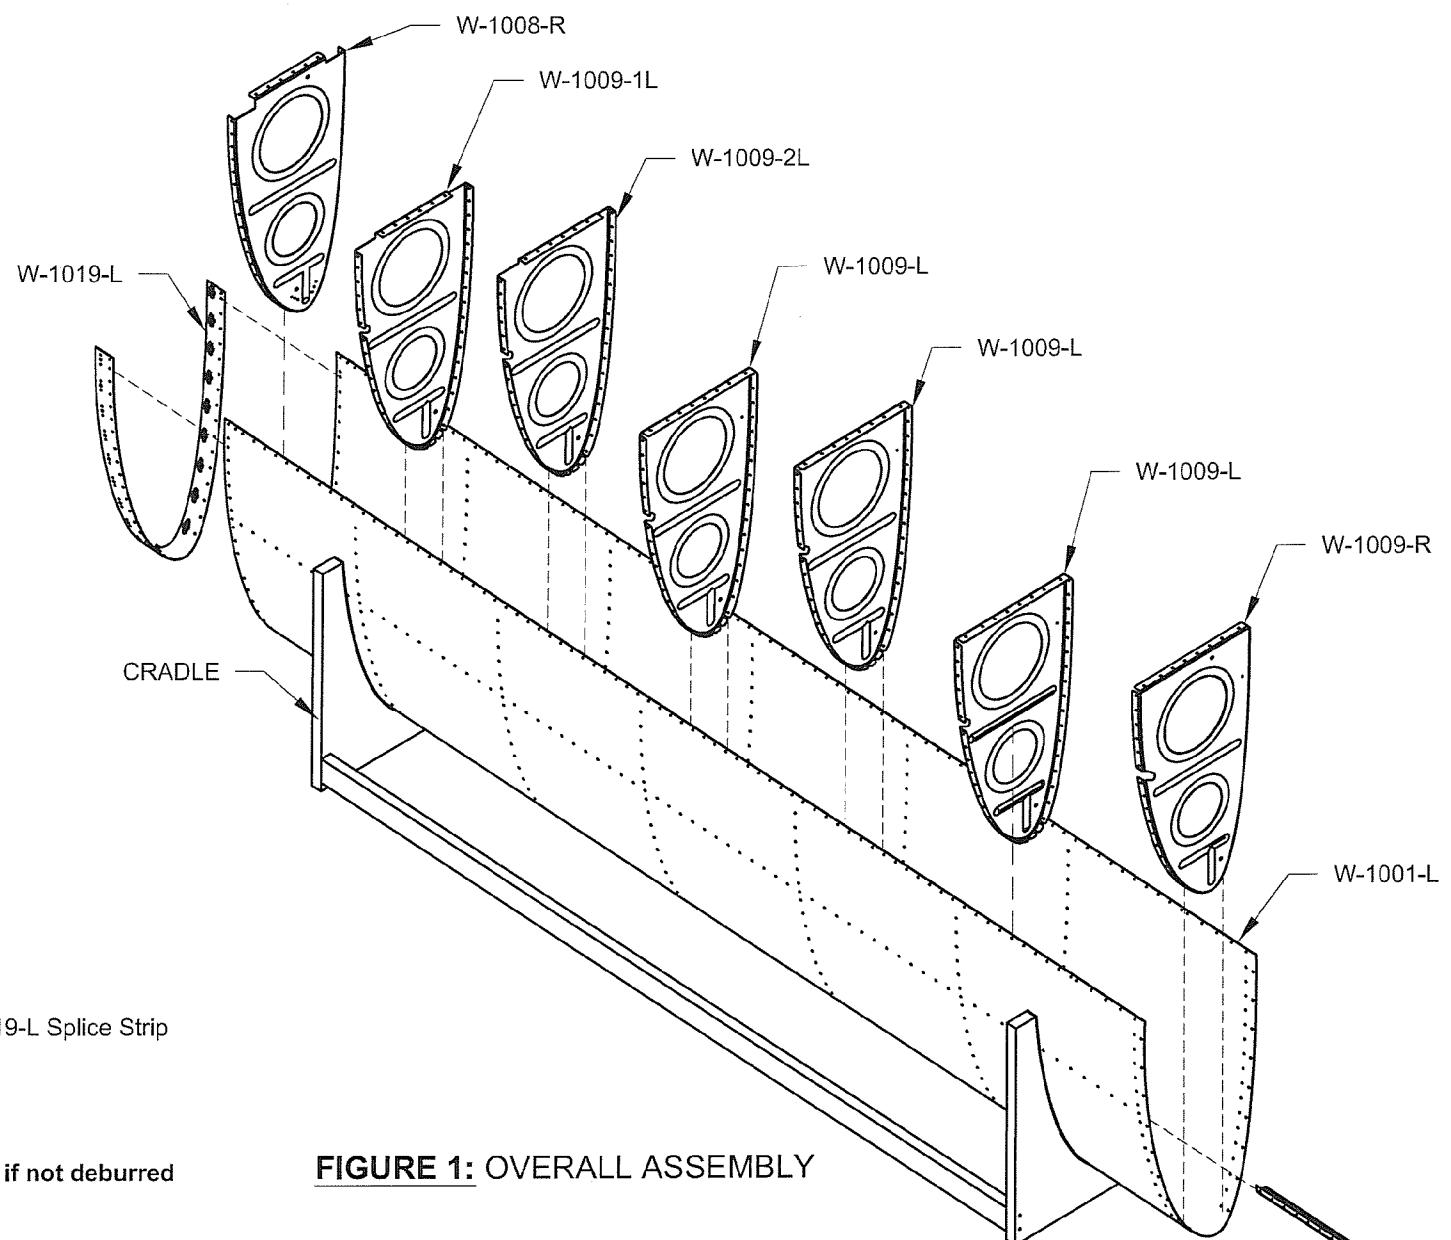

FIGURE 1: OVERALL ASSEMBLY
Step 12: Rivet (fill) the two stall warning slot guide holes in the W-1001-R Leading Edge Skin with AN426AD3-3 rivets. See Page 17-4, Figure 1.
Step 14: Rivet the assembly together per the rivet call-outs given on Page 17-4, Figure 1. Start by riveting the aft most two holes in the leading edge ribs and splice rib, top and bottom, then rivet all parts together progressively working towards the leading edge.
Step 1: Enlarge the tie-down hole (indicated in Figure 1) to allow a tie-down ring to be inserted through the W-1001-L Leading Edge Skin into the W-1020 Tie-Down. Tie down rings are not provided in kit, order BOLT EYE 3/8-16 T.D. from VAN'S ACCESSORIES CATALOG.